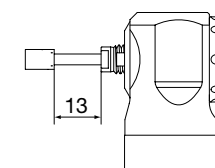

Fig. 15
- Do not exceed 13mm overhang for mounted grindstones. In case overhang must exceed 13mm reduce the motor speed in accordance with Fig. 15.